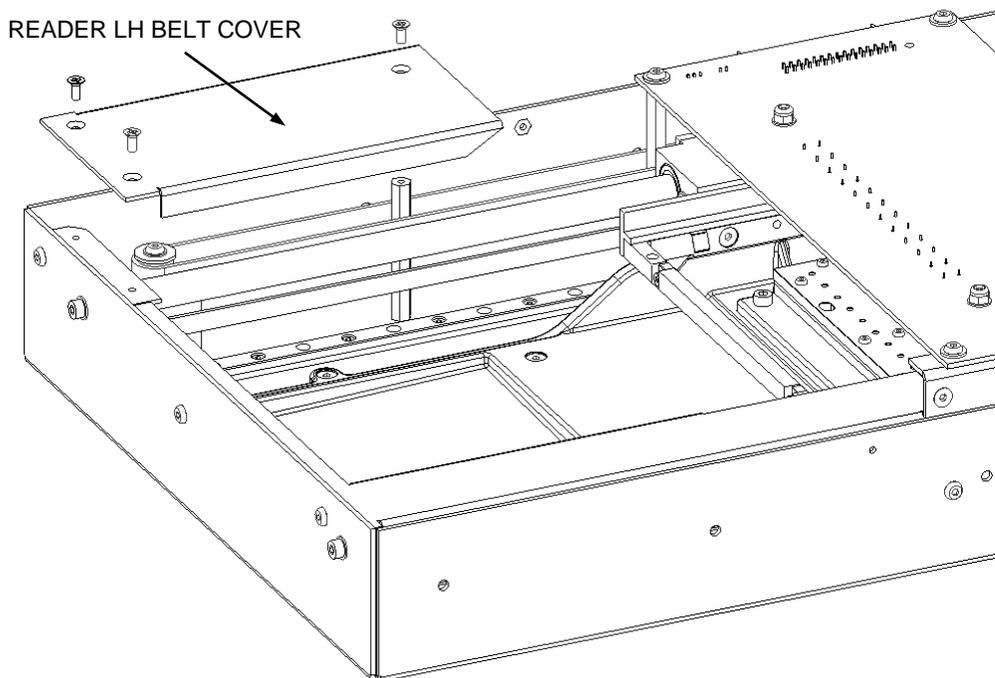

Figure 12-8: Left Hand Belt Cover
1. To remove the left hand belt cover, remove the three Posi Csk screws (Figure 12-8).